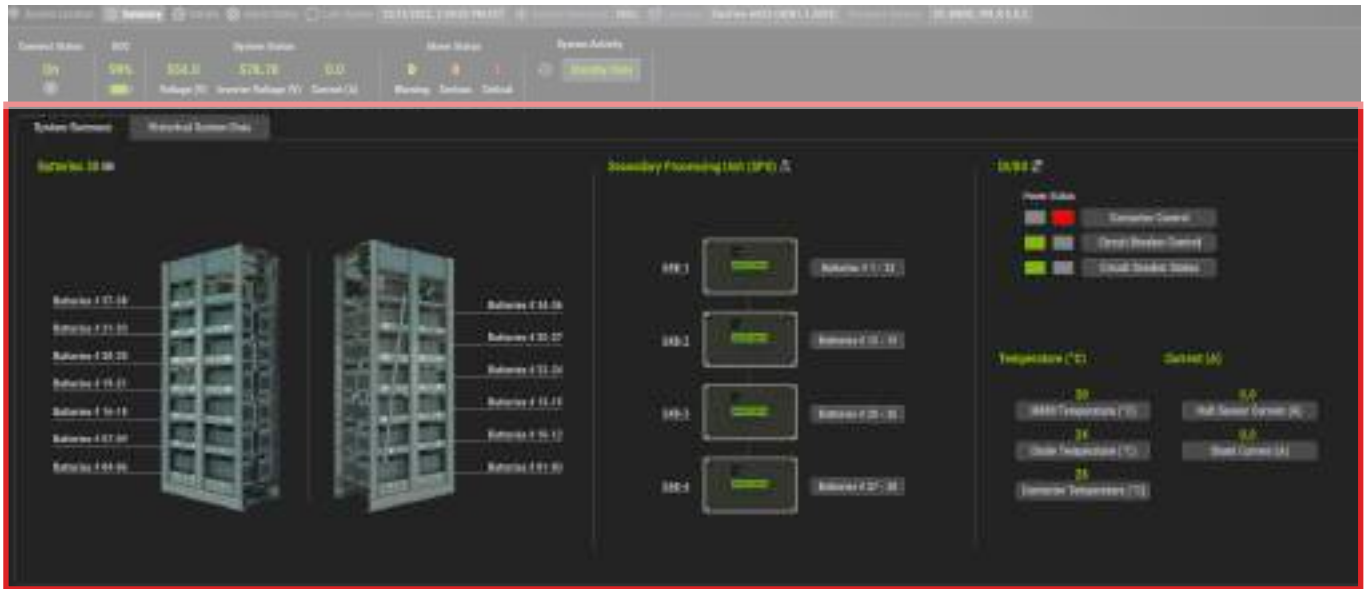

Figure 20 - System Summary Page.
- For a comprehensive list of potential alarms, see Figure 20 on pg. 27.
- The bottom half of the **System Summary** page displays a graphic of the battery cabinet, a list of all the secondary processing units (SPUs), and status of the digital inputs/outputs (Fig. 20).